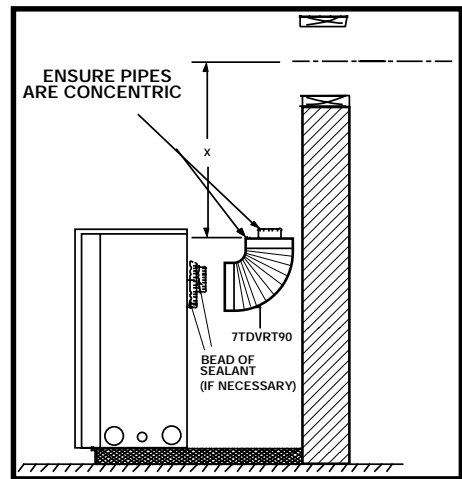

Fig. 50
(Fig. 50) Apply a bead of high temperature sealant to the inner and outer flue collars of the fireplace and using appropriate venting component(s) attach to fireplace with three (3) screws. Follow with the installation of the inner and outer elbow. Again secure joints with three (3) sheet metal screws. Wipe off any excess high temperature sealant.